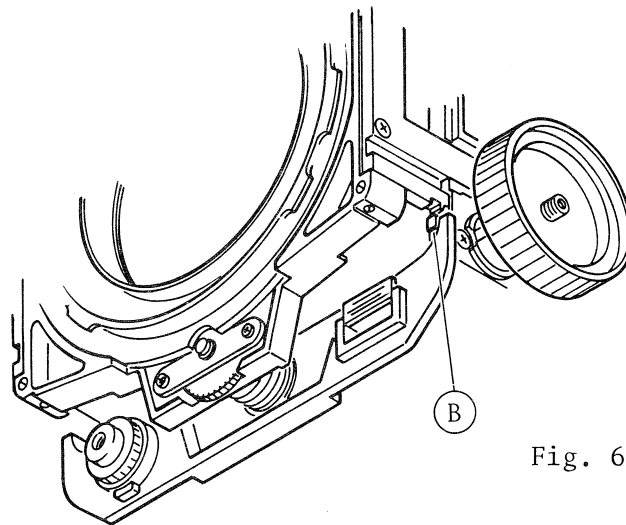

Fig. 69
- a. Align the first tooth of either rack plate with the protrusion (B) of die-casting by rotating the focusing knob. (Fig. 69) The other side rack plate must be in the same level.